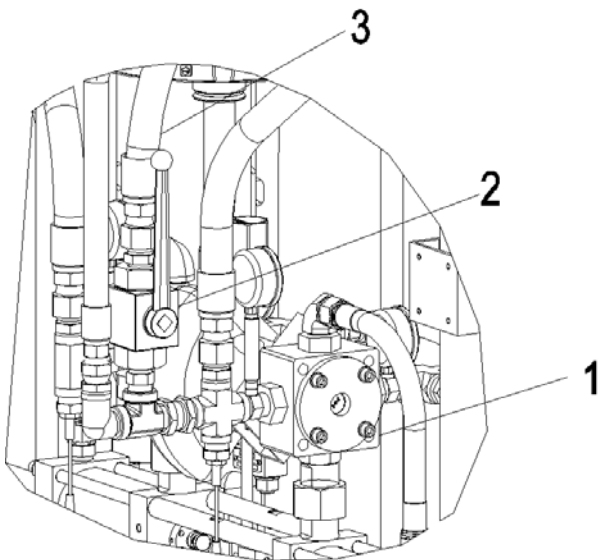

Fig. 6
1. Locate Tandem Fluid hose and Ball Valve at connection point. Refer to **Fig. 6**.
5. Reduce Pressure on air motor regulator (BE) to 0 psi (0 Mpa, 0 bar).
6. Place a container under Tandem Fluid ball valve. Refer to **Fig. 6**.
8. Open Tandem Fluid Ball Valve over container and slowly increase air motor regulator (BE) until material begins to flow. Continue to pump material into container until hose is primed.
10. Connect Tandem Fluid Ball Valve. Refer to **Fig. 6**.